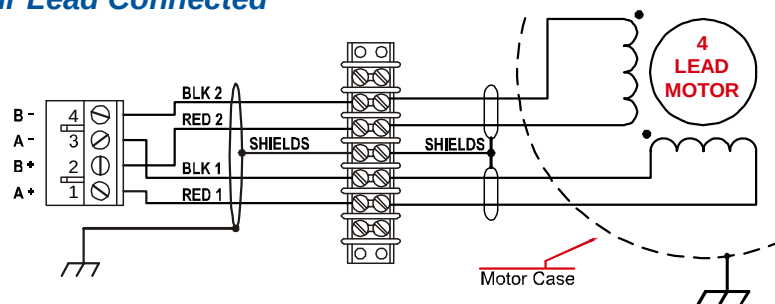

Figure 4.13 Motor Wiring
Figure 4.13, which is continued on the following page, shows how to wire a motor to the ANG1(E) in series, parallel, or center-tap configurations. Refer to the torque vs. speed curves on your motor's specifications sheet to determine how you should wire the motor to the ANG1(E).